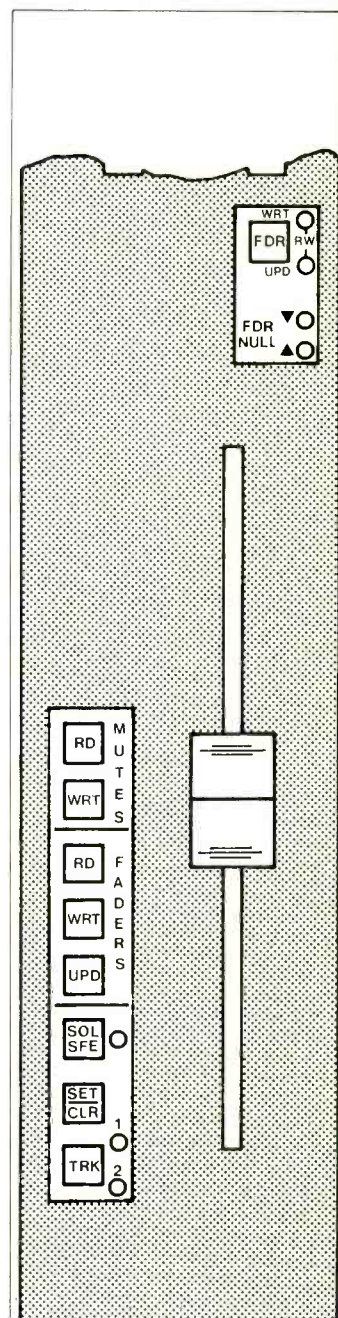

FIG 2. MASTER CONTROLS
**Master** (see Fig 2)—The five master mode switches force all channels to jump into the mode selected, MUTE READ or WRITE, FADER READ, WRITE or UPDATE. SOL SFE (solo safe), action indicated by an adjacent red LED, prevents the computer from responding to mutes caused by operating the solo switches when the solo system is in 'Solo In Place' mode i.e. all channels except those soloed are muted (unless locally switched to Safe). This allows 'wet' solo of any channel(s) during the execution of an automated mix. If however, the Solo In Place system is used as a third mute group, SOL SFE is not pushed. SET/CLR is used with the VCA sub-grouping system. TRK switches the data from and to the console between two tracks (say 1 and 24). A red LED indicates the track on which data is being recorded, data is therefore being received from the other track. The engineer still has to put the correct track into record, a certain amount of concentration being required at this point. This problem is removed with a disk based system, in which the computer is able to store data attached to time code without the need to press any buttons.